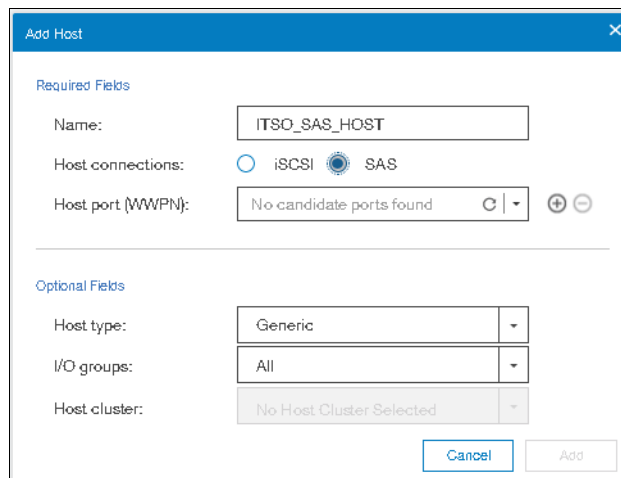

Figure 5-69 SAS WWPNS that are visible to the system
2. Enter a descriptive host name and click **SAS** under **Host Connections** option as shown in Figure 5-69.